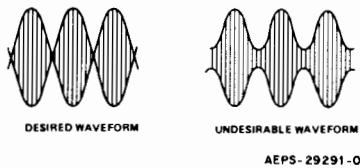

Figure 5. AME Waveform Adjustments
Step 3. With the oscilloscope connected as shown in Figure 2 adjust the AME control (see Figure 1) for the desired waveform shown in Figure 5. There must be no crossover distortion of the rf envelope.